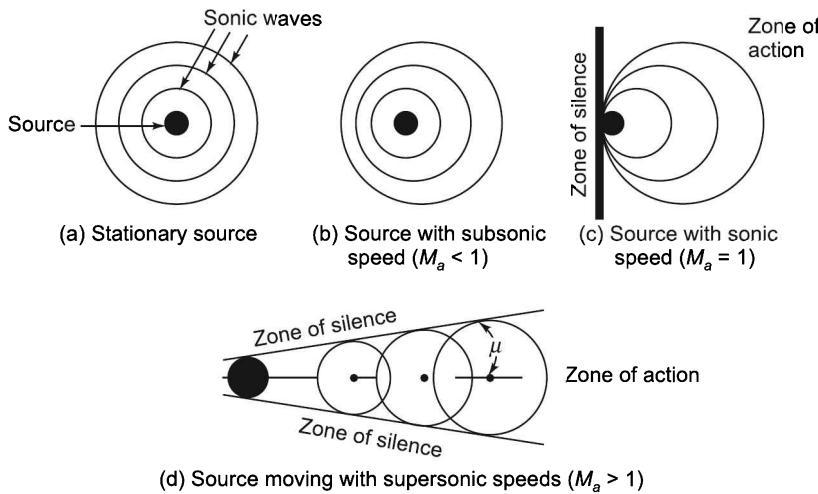

FIGURE 18.70 Propagation of a source of sound at different speeds.
- (a) **Stationary source:** The source emits a sound wave at every second which travels in the form of a circle with its centre at the location of the source as shown in Figure 18.70(a). After three seconds, there are three concentric circles as shown in the figure. The effect of the sound source is felt to an observer within the largest circle.
- (b) **Source travelling at subsonic speeds:** Consider the source is travelling at subsonic speed (say $M_a = 0.5$). The source occupies various positions as shown in Figure 18.70(b). The sound waves start to pile up in the direction of motion and start to stretch out in the opposite direction.
- (c) **Source travelling at sonic speed:** When source reaches sonic speed ($M_a = 1$), an infinite number of sound waves stack up in the direction of motion as shown in Figure 18.70(c) to form a shock wave.
- (d) **Source travelling at supersonic speeds:** When source moves with supersonic speeds, it leaves its pressure wave behind. The pressure waves create an angle known as the *Mach wave angle* (μ) as shown in Figure 18.70(d).